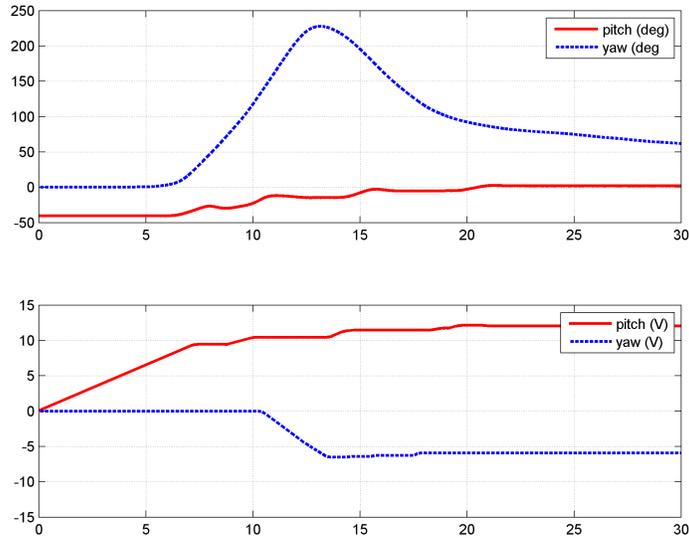

Figure 5.13: Effect of pitch on yaw
15. As depicted in Figure 5.13, you will notice that the yaw angle moves clockwise in the positive direction as the voltage in the pitch motor increases. Compensate for this coupling effect by moving the joystick arm to the left and apply a negative voltage to the yaw motor. As illustrated, the pitch is eventually stabilized at about 0 degrees when the pitch motor voltage is approximately 12.5 V and the yaw begins to stabilize when feeding a voltage of about -6.0 V to the yaw motor.